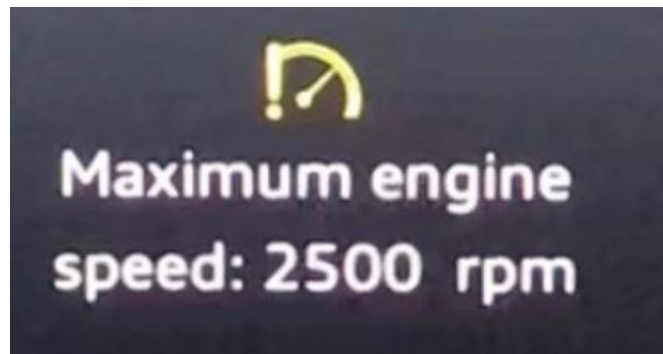

Figure 1. Message in the instrument cluster.
- A maximum engine speed message appears in the instrument cluster (Figure 1).